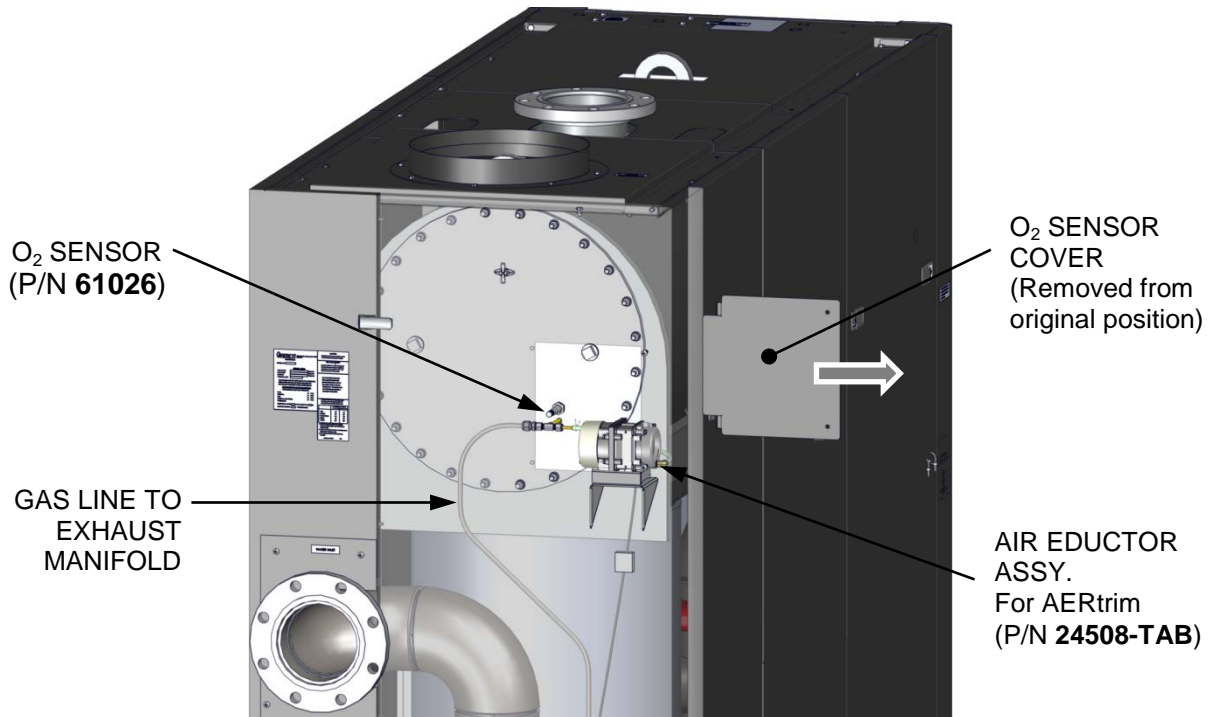

Figure 4-2: O₂ Sensor Mounting Location – Back Panel Semi-Transparent
The Lean Oxygen Sensor (P/N **61026**) is located on the burner's rear plate, on the rear of the unit, as shown in Figure 4-2. As this figure shows, there is also a gas suction line that supplies a sampling of the exhaust gases from the exhaust manifold to ensure accurate sampling of the O₂ levels. The sensor and the suction line may be hot, therefore allow the unit to cool sufficiently before removing or replacing the O₂ sensor.
2. Remove the O₂ Sensor Cover from the unit's back panel by removing the cover's 4 Phillips head screws (see Figure 4-2).
Benchmark 5000 and 6000 units contain an Air Eductor assembly, mounted on the opening in unit's back panel, just behind the O₂ Sensor Cover (see Figure 4-2, above). It includes an air pump, which draws an air sample from the combustion chamber, causing it to flow past the Oxygen sensor mounted on the burner's rear plate, ensuring its accuracy (see *Air Pump Voltage* setting in the Operating menu, Appendix A1 for more information).